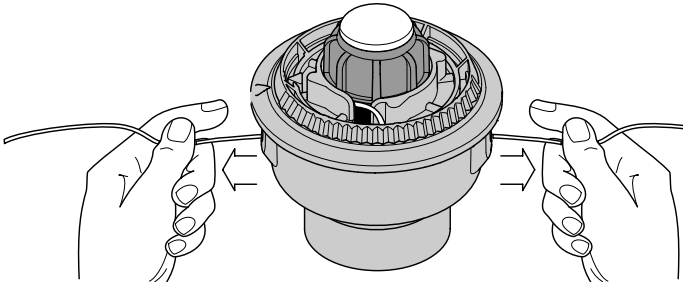

Fig. 13
9. If winding the line becomes difficult or the line jams, pull the ends of the line from the spool (Fig. 13). Continue winding the inner reel counterclockwise.
4. Hold the inner reel in place and install the bump knob, spring and foam seal. Press down and turn the bump knob clockwise. Grasp the ends and pull firmly to release the line from the holding slots in the inner reel. (Fig. 13).
If the SpeedSpool® does not release line correctly, pull the ends of the line firmly from the spool (Fig. 13). If this does not release line, **follow the Cleaning the SpeedSpool® instructions.**